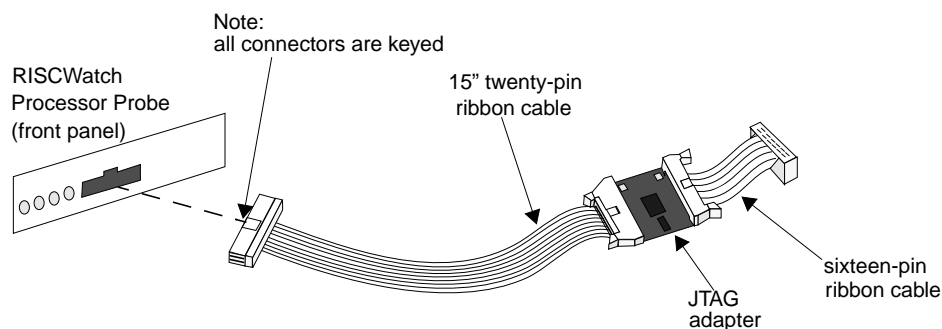

Figure 3-1. Typical JTAG Adapter Assembly
4. If your JTAG adapter assembly looks like the one shown in Figure 3-1, you have a typical JTAG adapter assembly. To assemble the adapter and cables, perform the following steps: